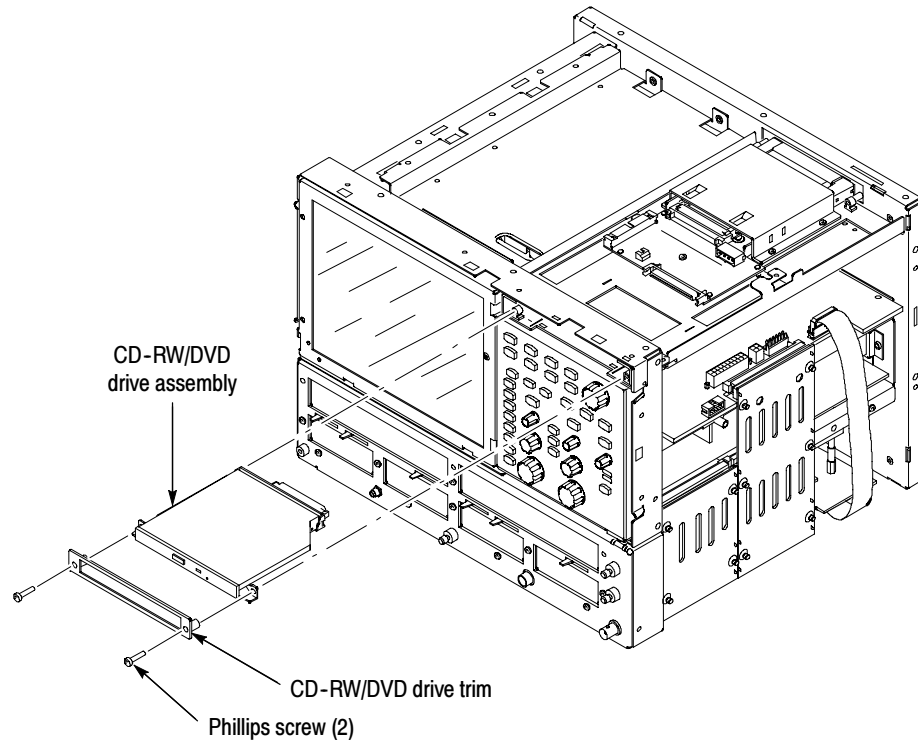

Figure 7: CD-RW/DVD disk drive removal
3. *Remove the CD-RW/DVD drive trim.* See Figure 7, page 18. Remove the two Phillips screws that hold the trim to the mounting frame and remove the trim.
4. *Remove the CD-RW/DVD drive.* See Figure 7, page 18.